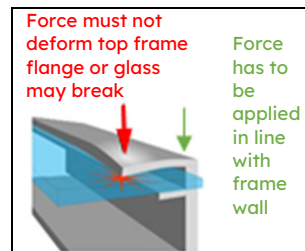

Figure 1a: Clamp Force Locations
2) **Clamps:** Mount the module with the opposite clamps on the longer and/or shorter sides of the module. The clips allowed location should be according to Appendix. Installers should ensure the clamps are of sufficient strength to allow for the maximum design pressure of the module. Clamps are not provided by Maxeon. Clamps must apply force collinear with the 'wall' of the module frame and not only to the top flange. Clamps shall not apply excessive force to the top frame, warp the top flange or contact the glass-these practices void the module warranty and risk glass breakage. **Figure 1a** illustrates locations for top frame clamp force. When clamping to the module frame, torque should never exceed 132 in-lbs (15 Nm) to reduce chances of frame deformation and/or glass breakage. If the clamp